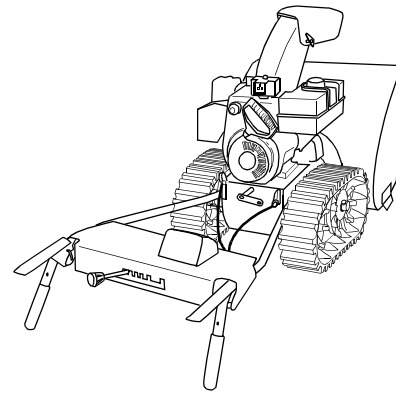

Figure 6
- Hold the handle assembly up to the bottom of the snow thrower frame and thread the hex bolt into the lower hole in snow thrower frame. Do not tighten at this time. See Figure 6.